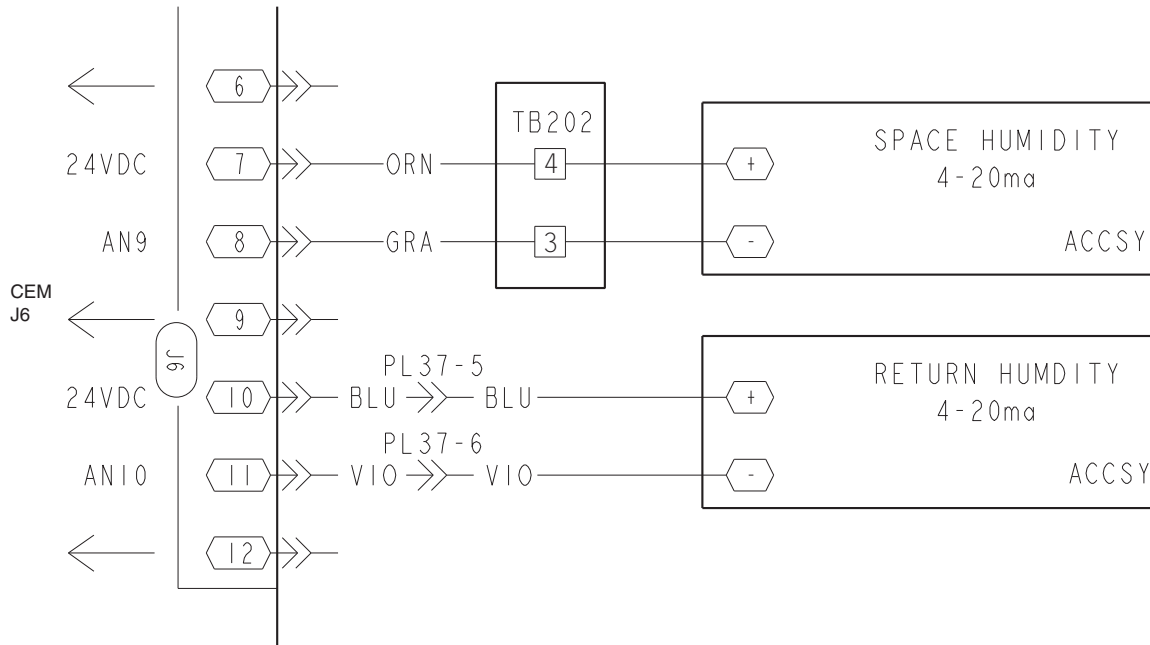

Fig. 62 — Space and Return Air Humidity Sensor Wiring
- Space humidity sensor (Fig. 62)
- Return air humidity sensor (Fig. 62)